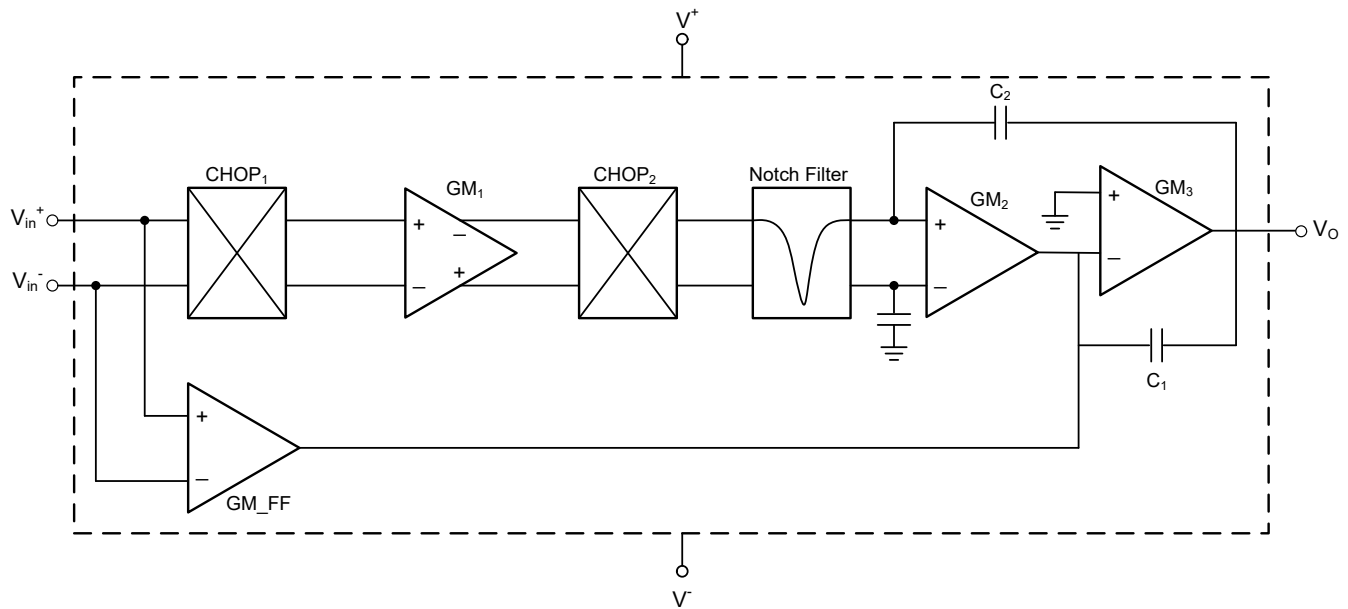

Figure 6-6. Chopper Functional Block Diagram
New-generation choppers are dramatically quieter, incorporating a switched-capacitor filter with multiple notches aligned with the chopping frequency and its odd harmonics, while the high frequency input signal bypasses chopping (DC) stage all together using fast-forward (GM_FF) stage – see Figure 6-6. A superior filtering is accomplished by integrating a charge for a full clock cycle before transferring its charge to the next stage of the op amp. Integrated over a full up-down cycle, its net value is zero. In the frequency domain, this creates a sinc(x) or sin(x)/x filter response with nulls that precisely align with the fundamental and all harmonics of the triangle wave. Since 1/f (flicker) noise is merely a slow time-varying offset voltage, choppers virtually eliminate this increased noise-spectral density in the low-frequency range. The chopping shifts the baseband signal to the chopping frequency beyond the input stage's 1/f region. Thus, the low-frequency signal range of choppers has a noise-spectral density equal to that of the amplifier's broadband frequency noise.